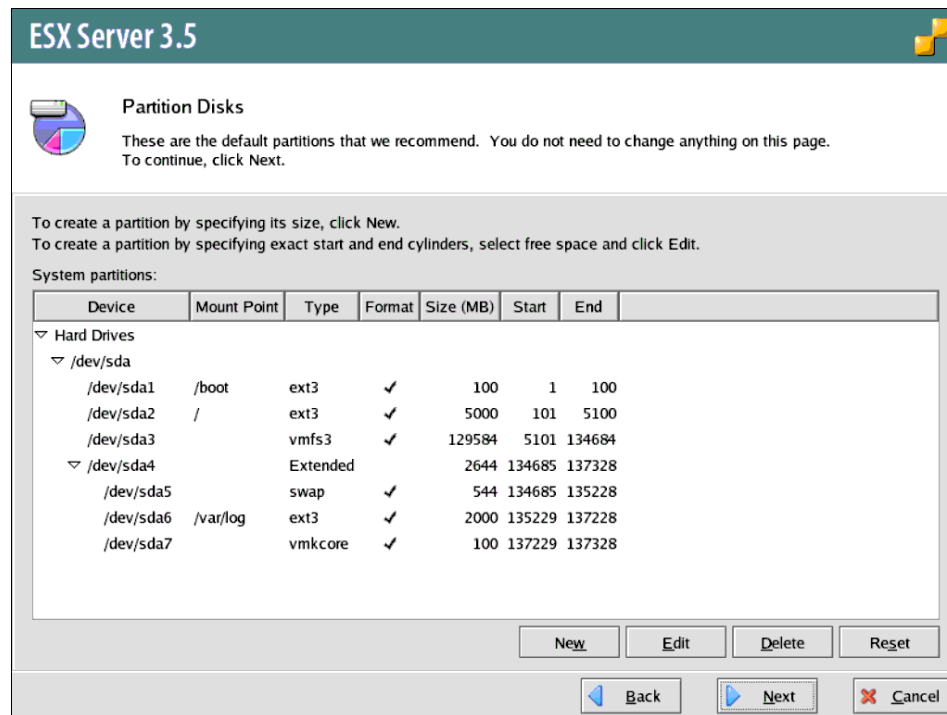

Figure 5-31 Choosing the Partition Layout for ESX 3.5 Update 1.
- Default partitions are provided by the ESX 3.5 Update 1 installer. You can change the default partition layout if required, as shown in Figure 5-31. Otherwise, accept the defaults and click **Next** to continue.